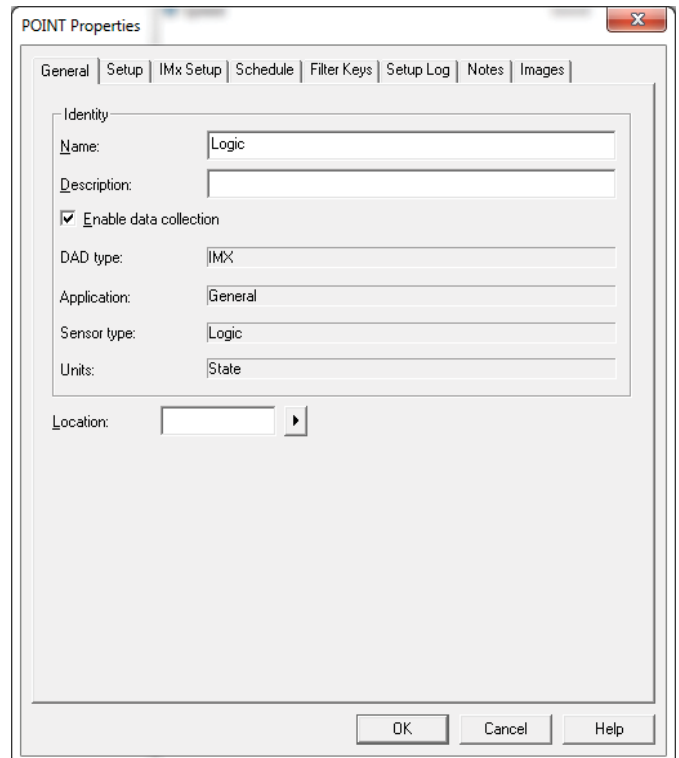

Fig. 12. Point Properties' General tab.
- 12 Choose the **General** tab (→ fig. 12).